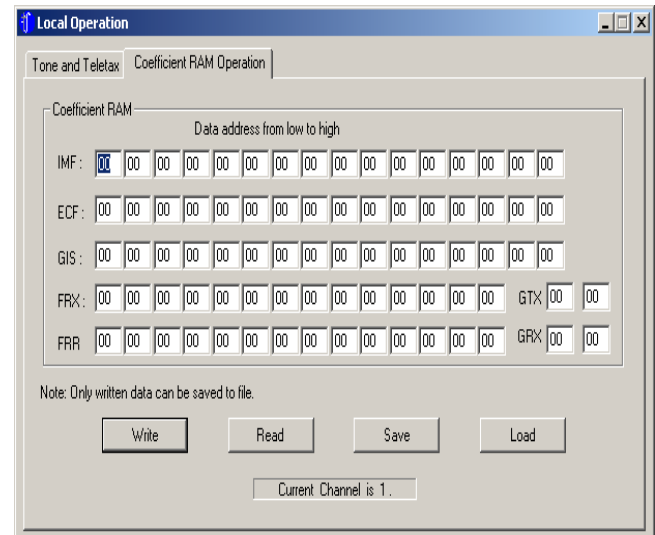

FIGURE 8. COEFFICIENT RAM OPERATION SCREEN
When the COF RAM button is selected from the GCI Operation General Interface screen, the COF RAM Operation screen will appear (Figure 8). From this screen, the user can load the coefficients for the current channel.
- From GCI Software screen, Select COF RAM. The Coefficient Ram Operation screen will appear (Figure 8).